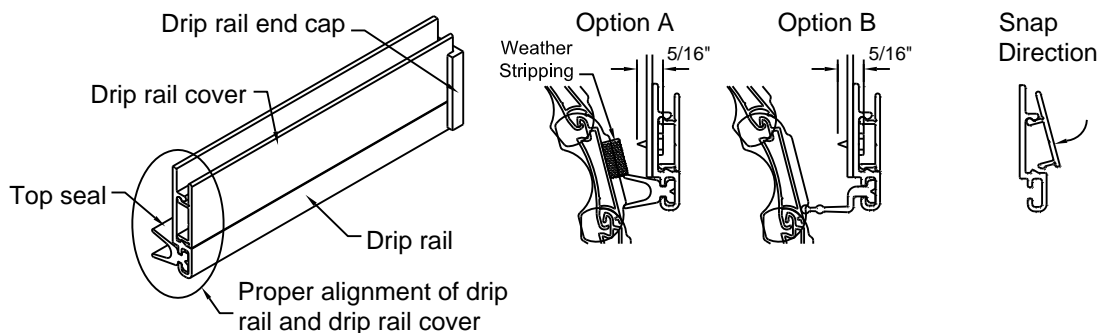

Fig. 3
- Using a soft rubber mallet or protective cloth and metal hammer, tap the snap cover into place or slide the cover into the end of the drip rail. Then using the same equipment tap on both end caps onto the ends of the drip rail. (Fig. 3)